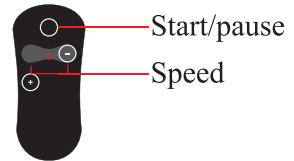

figure 2
Try to touch your toes with your hands. Hold for 10-15 seconds, then relax. Repeat with each leg three times (see figure 2)
2. Hold the remote control and aim it at the display window of the treadmill (as shown in FIG. 2) within 10 seconds after unplug the treadmill security lock (as shown in FIG. 1). Meanwhile, press the start/pause button on the remote control for about 3 seconds, and the system will sounds "didi... ", indicating that the remote control and treadmill have been successfully paired, and the remote control can be used to control the treadmill normally.